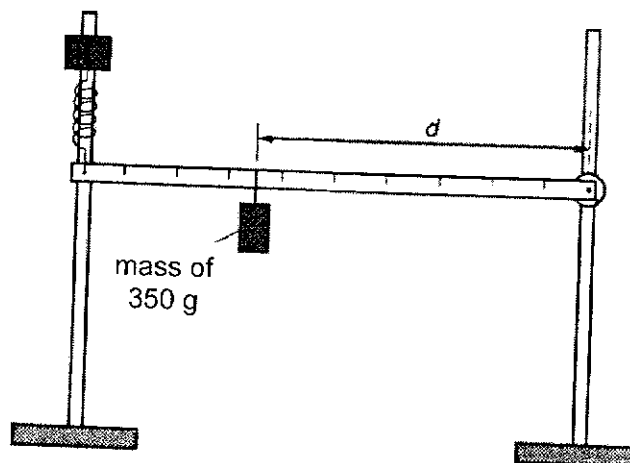

Fig. 2.2
- (b) Hang the loop of string onto the rule to suspend a mass of 350 g a distance  $d$  from the pin as shown in Fig 2.2. The mass should be about halfway along the rule. Adjust the position of the clamps to make the rule approximately horizontal again.